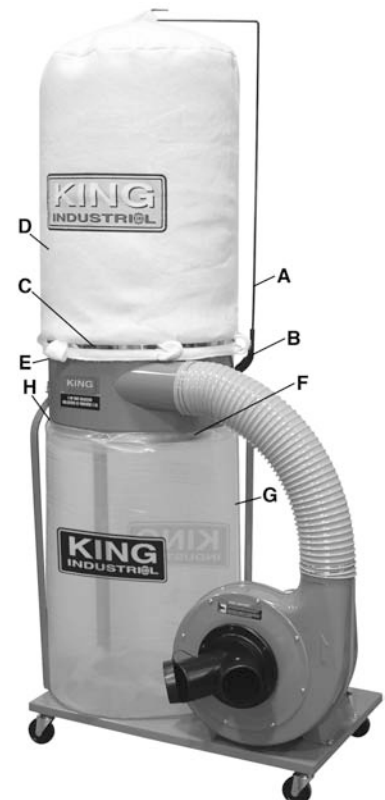

FIGURE 11
8. Insert bag hanger (A) Fig.11 into hanger bracket (B) and then hook the top dust bag to hanger. Insert retainer strap (C) through keeper straps of the top dust bag (D) and fasten to the upper lip of the main housing (E) (KC-3105C only).
9) Position the retainer strap (F) Fig.11 over the bottom transparent dust bag (G) and fasten to the lower lip of the main housing (H).